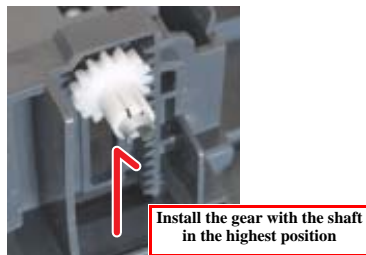

Figure 4-44. Installing the CD-R Shaft
- When installing the CD-R Shaft, orient it so that the side where the distance from the shaft end to the hole for the hook of the gear is larger is positioned left (on the spring side), and pass it through the Stacker. (Fig. 4-44)